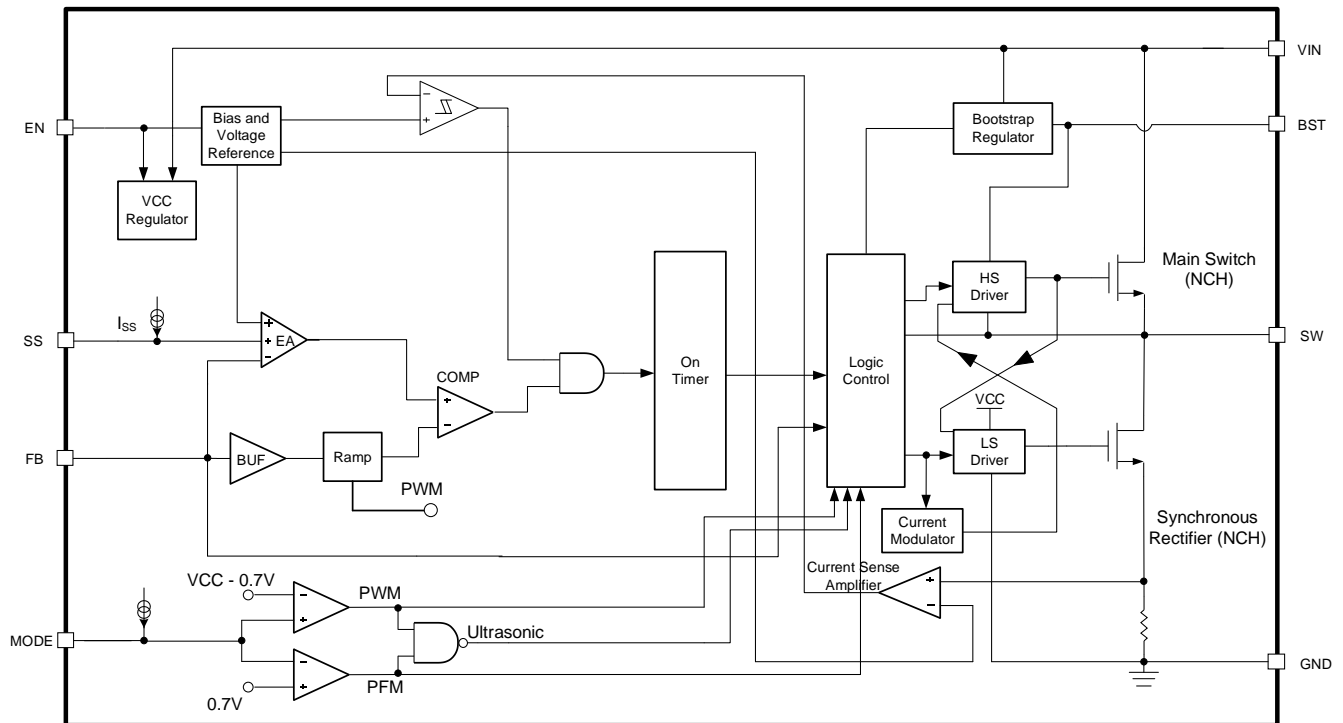

Figure 1: Functional Block Diagram
The MP2348 has valley limit control. When the low-side MOSFET (LS-FET) is on, the inductor current is monitored. If the sensed inductor current reaches the valley current limit, the LS limit comparator turns over (see Figure 1). Then the device enters over-current protection (OCP) mode, and the high-side MOSFET (HS-FET) remains off until sensed inductor current falls below the valley current limit. Meanwhile, the output voltage drops until the feedback voltage (V_{FB}) falls below the under-voltage (UV) threshold. Once UV is triggered, the MP2348 enters hiccup mode to periodically restart the part.